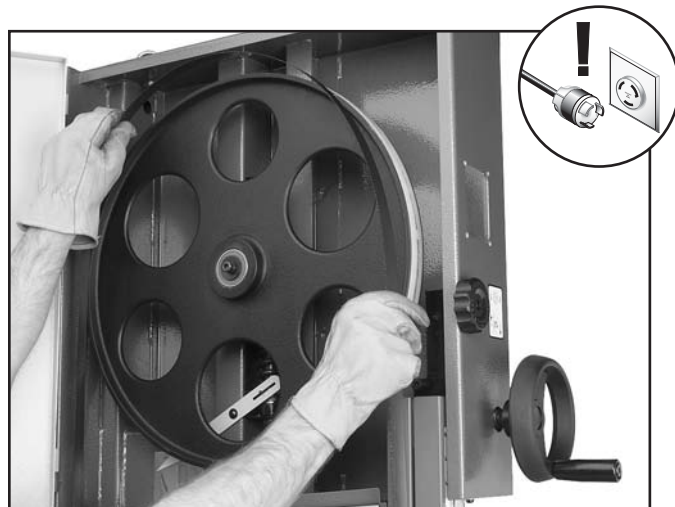

Figure 58. Typical example of placing blade on the wheels.
2. Slip the blade through the guides, and mount it on the upper and lower wheels (**Figure 58**).